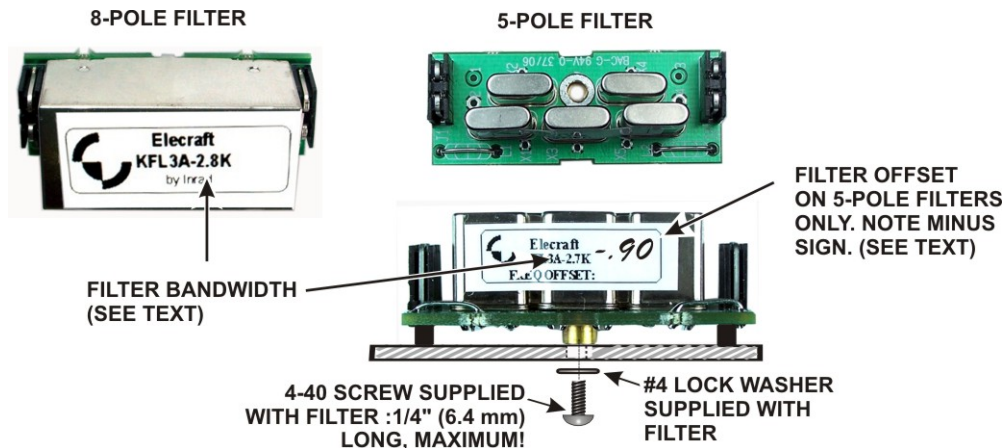
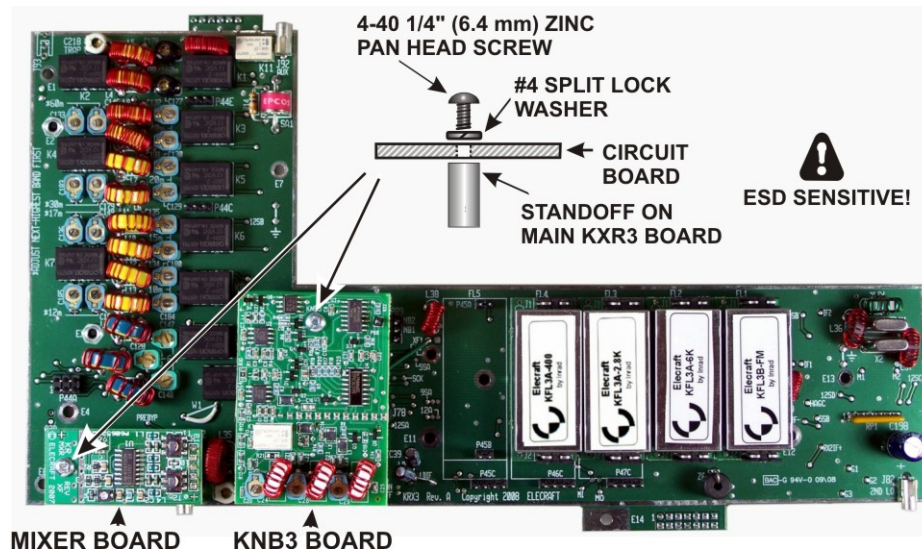

Figure 38. Installing Crystal I.F. Filters.
Figure 39, Main KRX3 Board Ready for Installation.
Locate the crystal I.F. filters. Two types of filters are available: standard 5-pole filters and optional 8-pole filters (see Figure 38). One standard 5-pole 2.7 kHz filter is supplied. If you have elected to equip your K3 with the optional 8-pole 2.8 kHz filter, it has been supplied instead of the 2.7 kHz filter. If you have purchased additional filters, they may be installed now as well. If you plan to add filters later, spaces may be left for them. For example, if you plan to add the FM or a 6 kHz AM filter later, you can leave spaces FL1 and FL2 open for them and install the 2.8 kHz filter in position FL3. The filters are not hard to move about later, so if you aren't sure, install the widest at FL1, the next widest at FL2 and so on.
Install the filters on the KRX3 board as shown in Figure 38. Use the screw and lock washer supplied with each filter. Refer to the list of filters you created in Table 1 to ensure each filter is installed in the proper position. Four of a possible five filters are shown installed on the KRX3 board in Figure 39.
□ Mount the Mixer and KNB3 boards on the main KRX3 board as shown in Figure 39. Be certain the connector on each board is properly aligned and mated with the connector on the main KRX3 board. The boards should be parallel to the KRX3 board. If they are tilted, check to ensure the correct number of washers were installed under the standoffs and that you used the correct standoffs as shown in Figure 37.